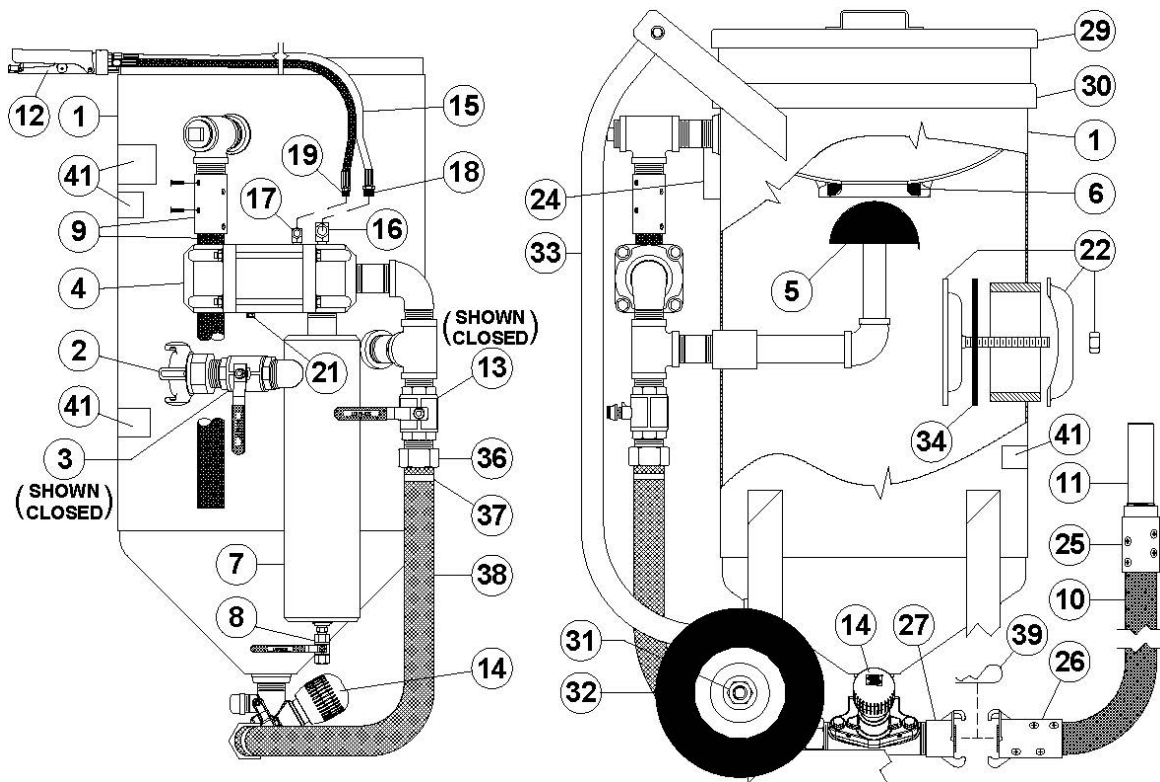

Figure 8.4 – MV2 Valve Abrasive Blaster with pneumatic blast controls
- 8.11. **Combo Blowdown Hose:** The blowdown hose (#9) that passes through the combo valve (#4) is a 3/4" blast hose. Abrasive carry-over can wear a hole through the wall of the hose and the fittings upstream. See Figure 8.4. Depressurize the abrasive blaster per Section 6.2 and check hose condition weekly. Replace as needed. When replacing the blowdown hose (#9), also replace the pipe fittings upstream of the valve. These fittings are the 1-1/4" x 3" VBS Restrictor, 1-1/4" tee, and the 1-1/4" pipe plug (see Figure 8.4).